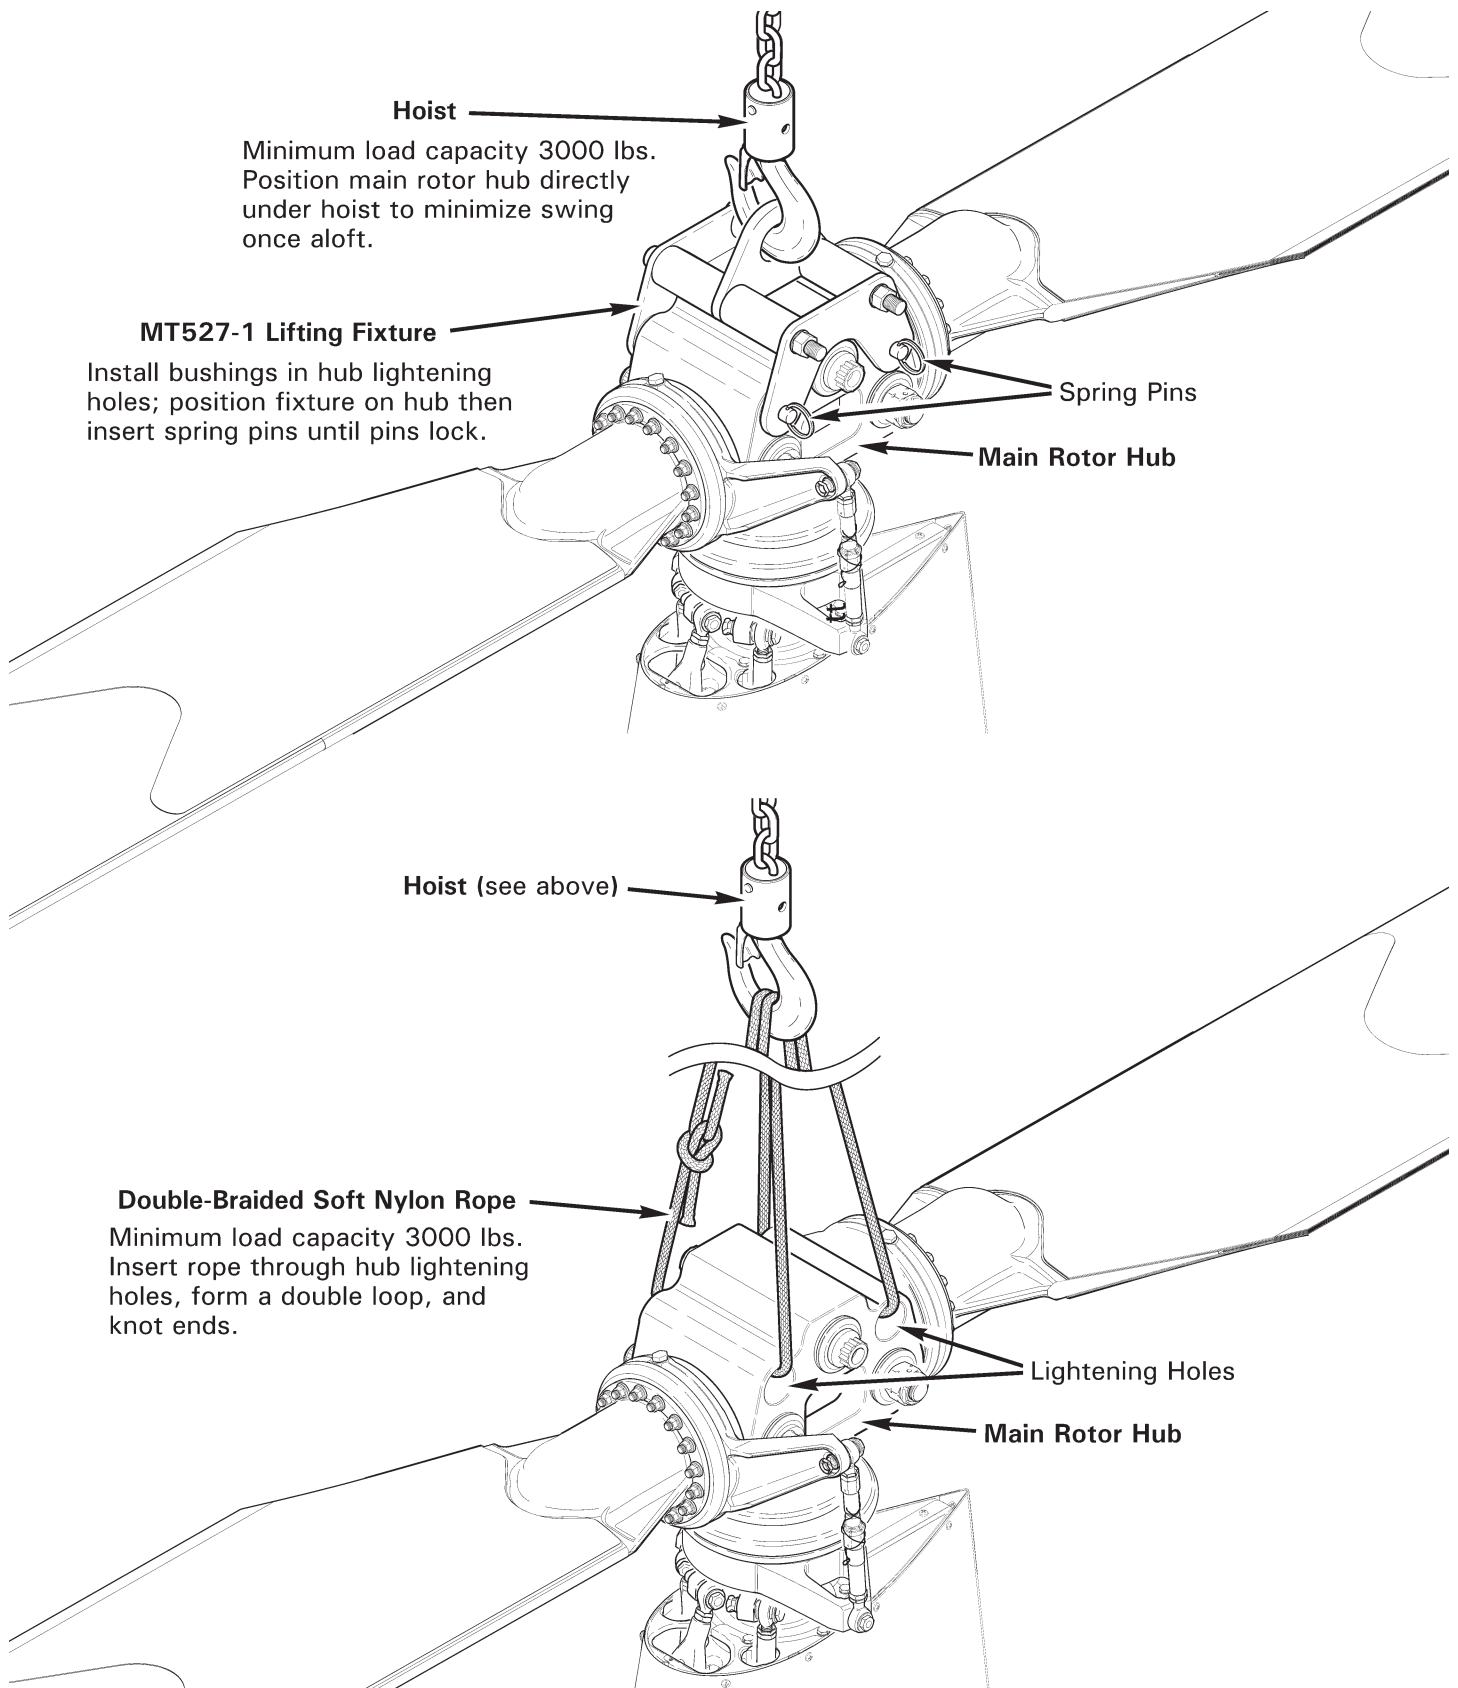

FIGURE 7-2 HOISTING
1. Refer to Figure 7-2. Verify hoisting equipment has minimum load capacity of 3000 lbs.
1. Refer to Figure 7-2. Verify hoisting equipment has minimum load capacity of 3000 lbs. Verify minimum work load limit for 1-inch diameter twisted or double braided (preferred) soft nylon rope is 3000 lbs.
1. Refer to Figure 7-2. Stabilize helicopter as required by guiding tail skid, but do not exert force (tail skid is secondary structure). Slowly lower aircraft to ground.